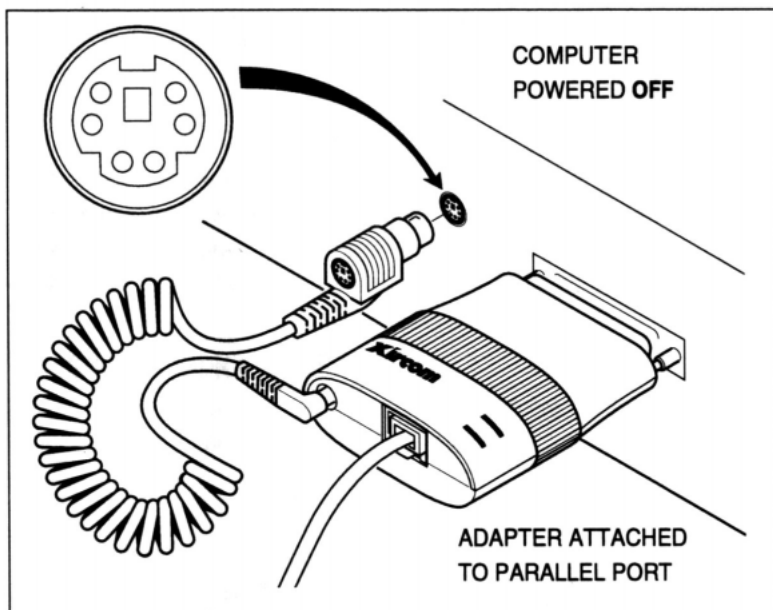

Figure 7. Connecting the AC Phantom Power Cable to the Computer
3. Plug other end of the AC Phantom Power Cable into the 6-pin PS/2-style keyboard/mouse port on the computer. See Figure 7.